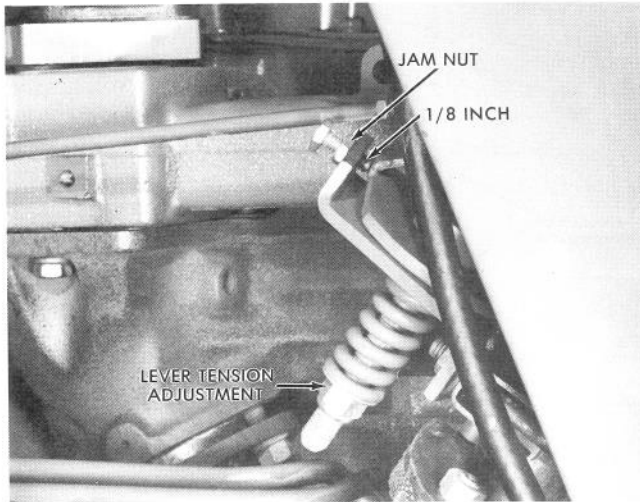

Figure 42
2. Adjust the low speed stop screw so 1/8 inch protrudes through the bracket as shown in Figure 42. Secure with the jam nut.
8. If the throttle lever "creeps" at high speeds, tighten the nut shown in Figure 42 to apply additional tension to the lever.